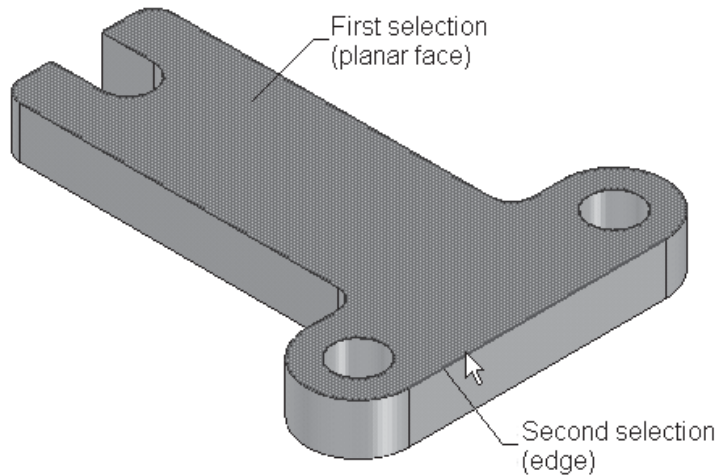

Figure 4-50 Making selections to create angled plane
3. Select the top face of the base feature, as shown in Figure 4-50.
4. Select the edge through which the angled plane will pass, see Figure 4-50.